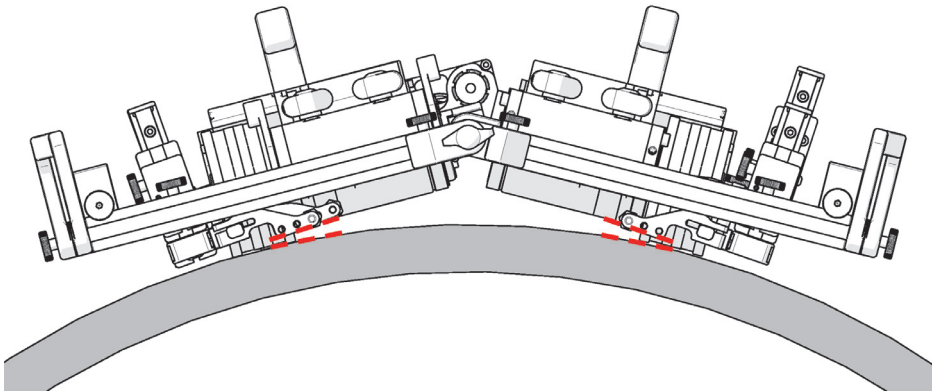

Figure 2-115 Correct probe holder longitudinal adjustment
4. Ensure that the probe holder arms are parallel to the scan surface (see Figure 2-115 on page 136 and “Probe Holder Longitudinal Adjustment” on page 99 for additional details).